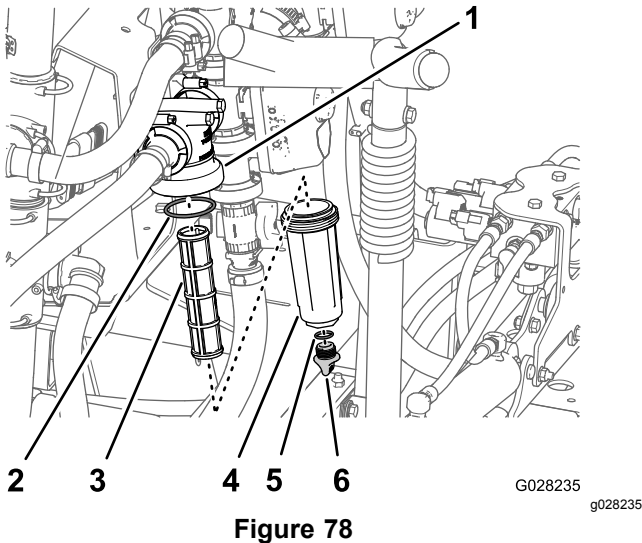

Figure 78
2. Align a drain pan under the pressure filter (Figure 78).
3. Rotate the drain plug counterclockwise and remove it from the bowl of the pressure filter (Figure 78).
4. Rotate the bowl counterclockwise and remove it from the filter head (Figure 78).
5. Remove the old pressure filter element (Figure 78).
6. Check the O-ring for the drain plug (located inside the bowl) and the O-ring for bowl (located inside the filter head) for damage and wear (Figure 78).
7. Install the new pressure filter element into the filter head (Figure 78).
8. Install the bowl onto the filter head hand tight (Figure 78).
9. Install the plug into the bowl hand tight (Figure 78).